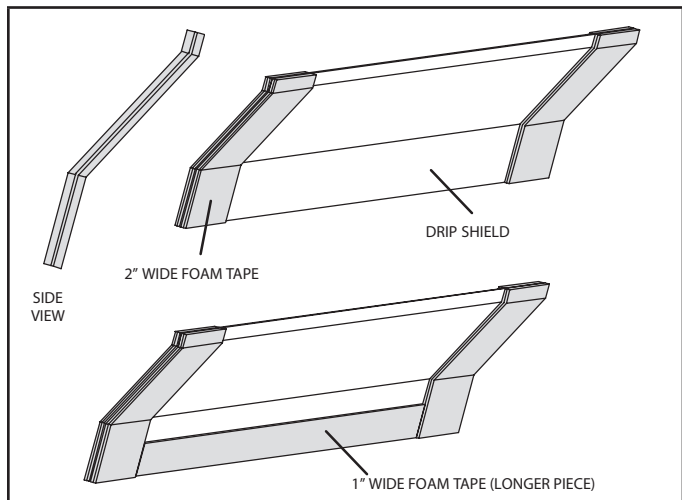

FIGURE 7. Applying Foam Tape to Drip Shield
- 4 - Foam tape that is provided creates a seal between the drip shield and the coil so that water does not leak into the air stream. The foam tape pieces are precut. Apply the tape to the drip shields as illustrated in figure 7 and specified as follows: